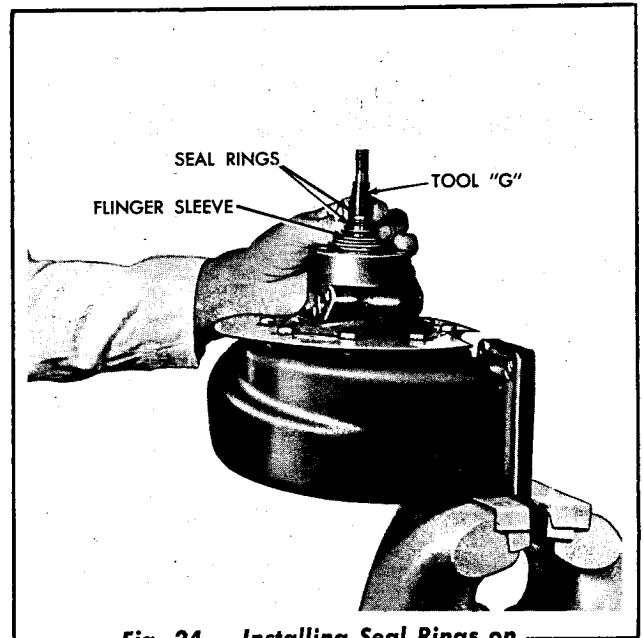

Fig. 24 — Installing Seal Rings on Flinger Sleeve
- f. Remove unit from press and clamp in vise. Place tool "G" over flinger sleeve (Fig. 24).